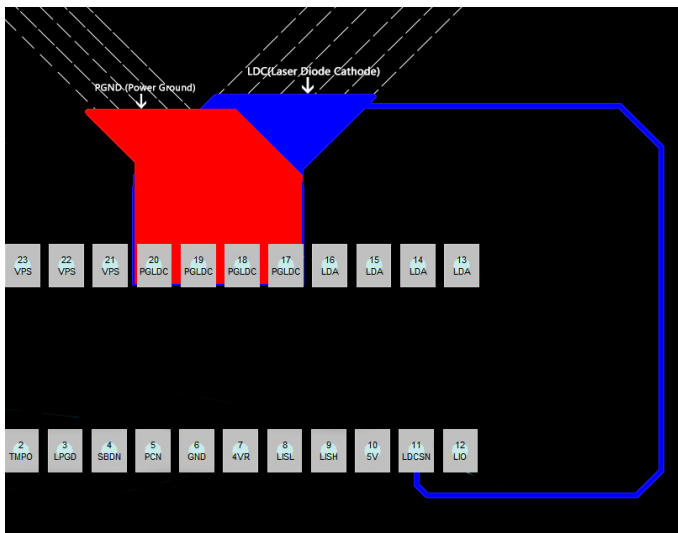
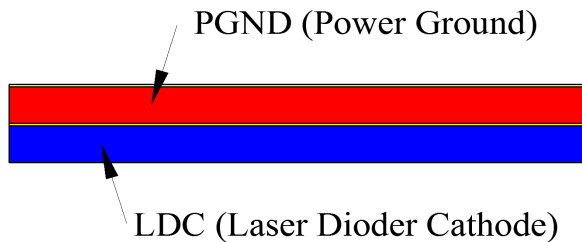
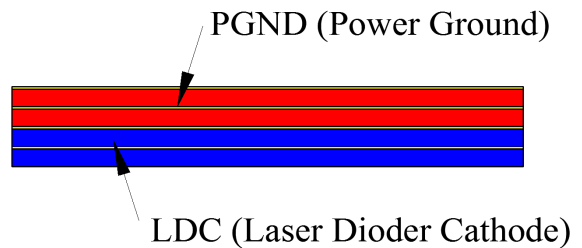

Figure 14. The Layout for the Two-Layer PCB
Figure 15. The Section View for the Two-Layer PCB
Figure 16. The Section View for the Four-Layer PCB
4. If the PCB is for mounting the laser driver. See the figures below for the layout of PGLDC pin. If the PCB has two layers, the top layer (red) is for routing PGND track, and the bottom one (blue) is for routing LDC track, see Figure 14. If the PCB has four layers, the top two layers are for routing PGND track, and the bottom two layers are for routing LDC track. The section views for two-layer and four-layer PCB's are shown in Figure15 and Figure 16 respectively.